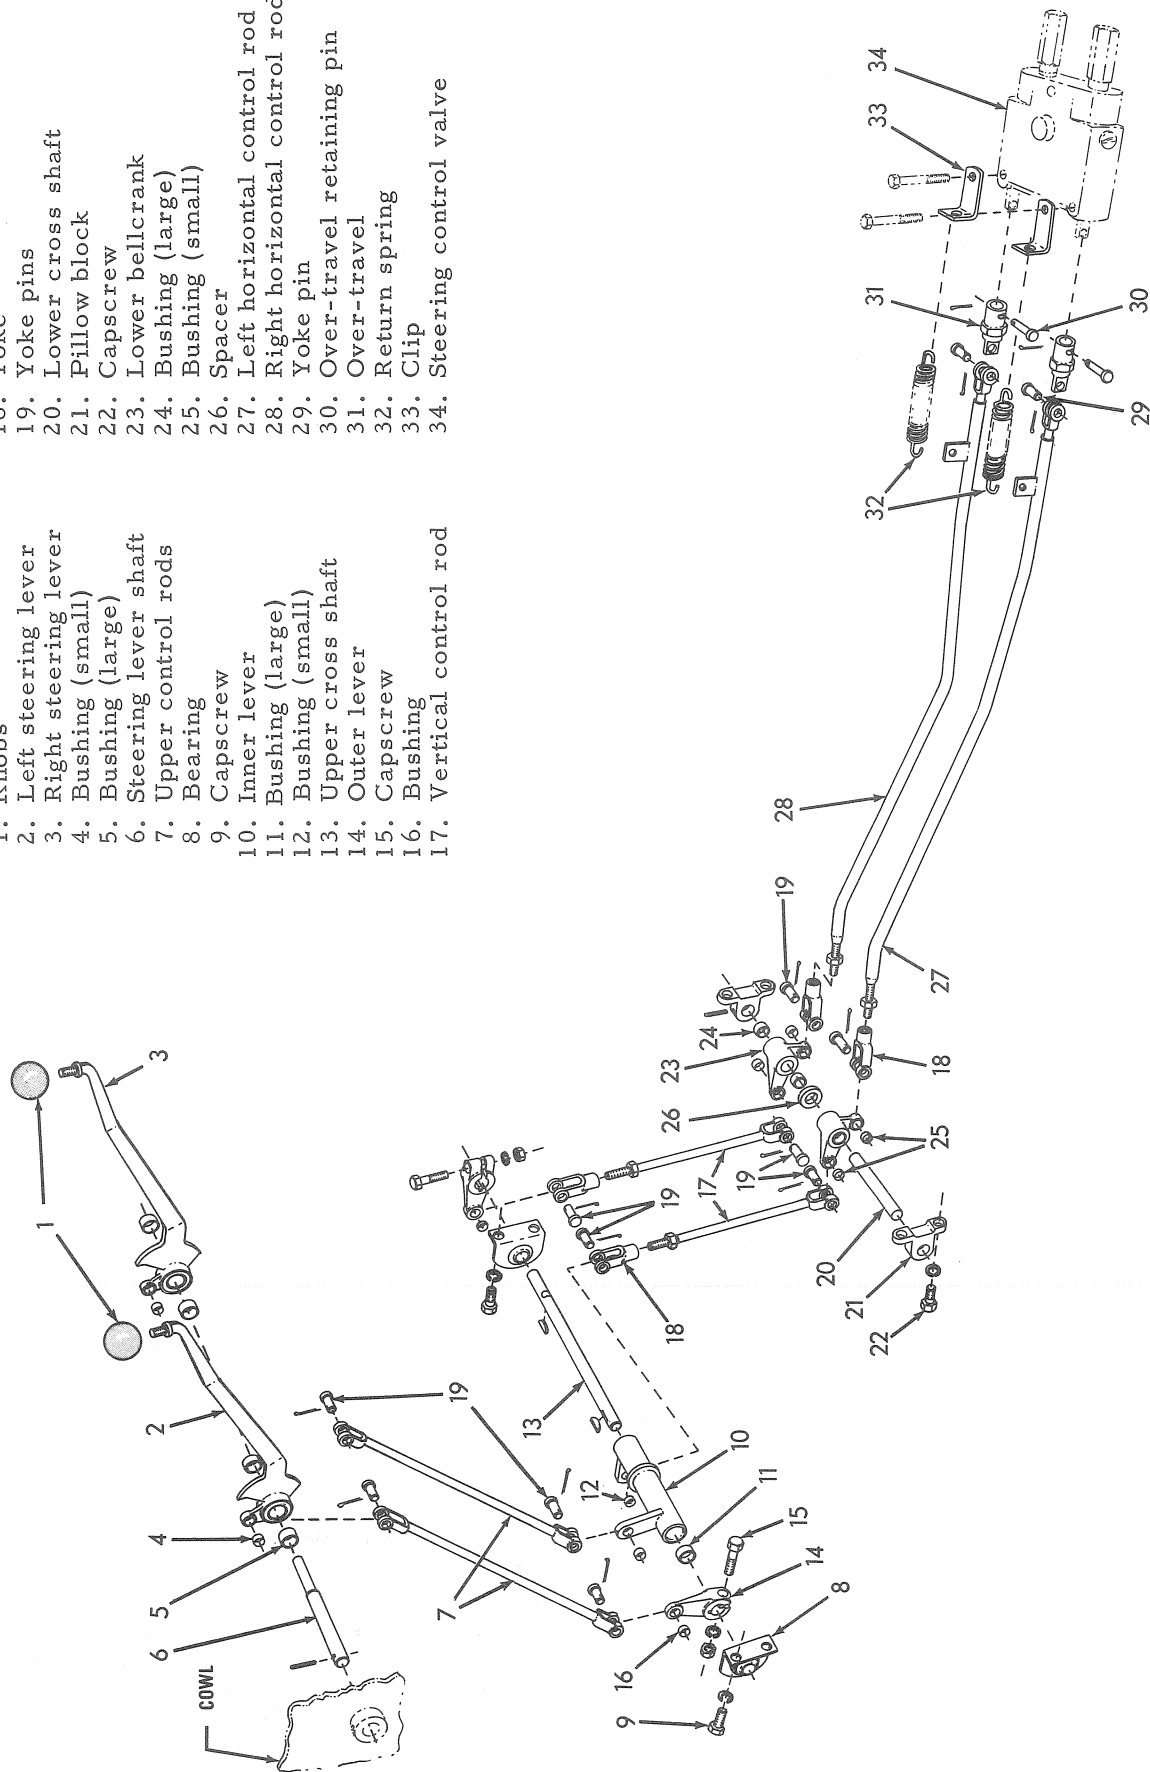

FIG. 9 STEERING CONTROL LINKAGE
Steering control valve plunger must be in as far as possible (neutral) when steering lever contacts upper stop in bracket, Fig. 9. Make adjustment at horizontal control rod, Fig. 9 (27 or 28).
**NOTE:** Length of vertical control rod Fig. 9 (17) -- measured between center-lines of yoke pin holes -- must be 10.34" -- 10.46" (262,6 -- 265,6 mm).
Steering control valve plunger must be pulled all the way forward and over-travel, Fig. 9 (31) slightly extended when steering lever contacts lower stop in bracket.
LEGEND FOR FIG. 9